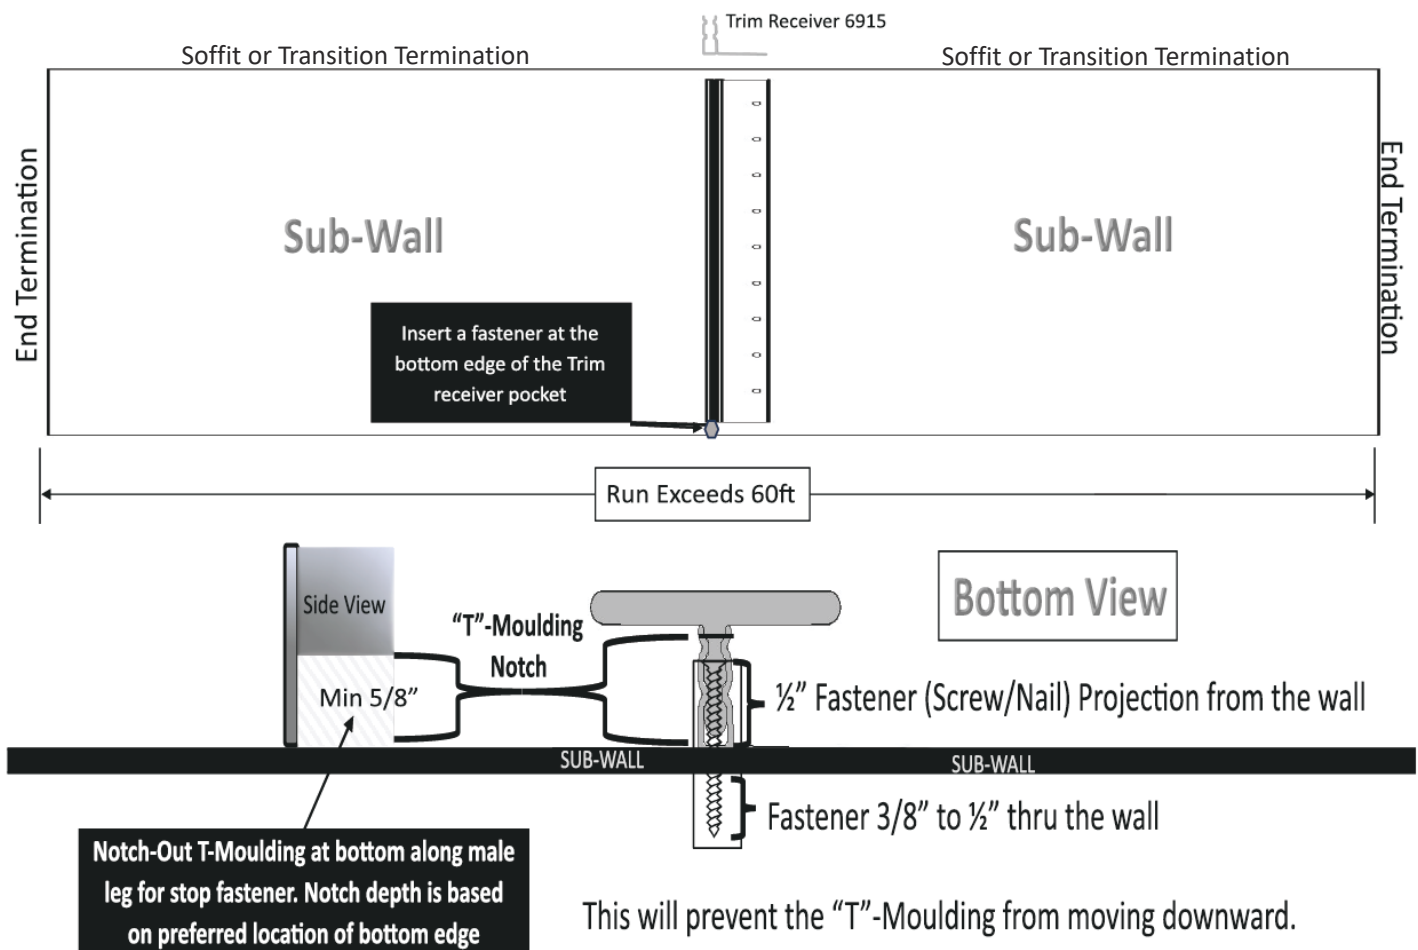

Figure 2
2. Locate Trim Receiver 6915 near the center of the wall, square and fasten (Figure 2).
- * Create a “T”-Moulding stop at the bottom of the “T”-Moulding (Figure 2).